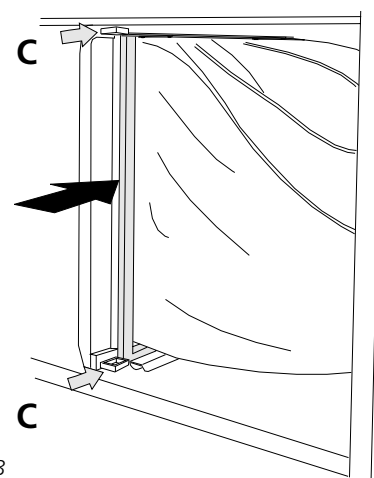

Fig 8
- Push in the handles (C in Fig. 8) at the upper and lower edges of the filter mounting bracket, to close the off-centre guide.